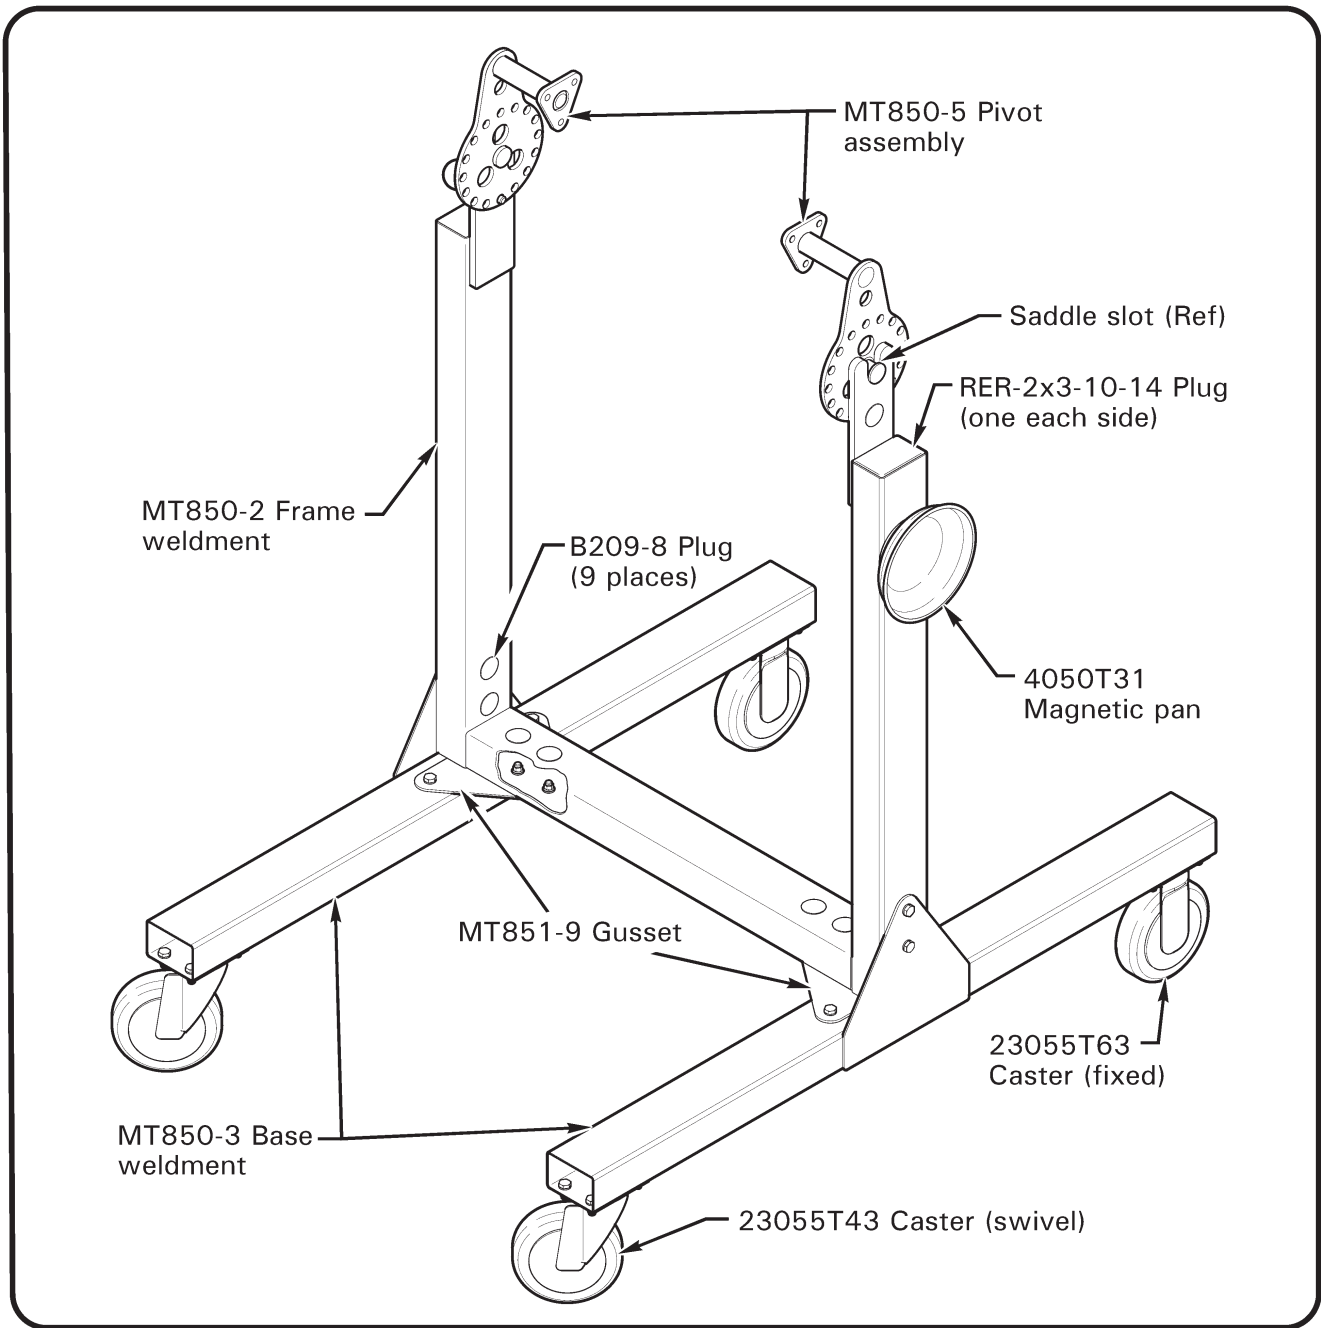

FIGURE 1
1. Refer to Figure 1. Install MT851-9 gusset, one each side, to MT850-2 frame weldment using (4) 92865A105 bolts, (8) NAS1149F0563P washers, and (4) 95462A510 nuts with gusset and bolt heads on bottom of frame weldment.
2. Install MT850-2 frame weldment to MT850-3 base weldments using (8) 92865A105 bolts, (16) NAS1149F0563P washers, and (8) 95462A510 nuts.
3. Install two 23055T43 casters (fixed) and two 23055T63 casters (swivel) to MT850-3 base weldments using (16) 92865A105 bolts, (32) NAS1149F0563P washers, and (16) 95462A510 nuts, ensuring mating casters are installed on same ends of base weldments.
4. Torque (28) 95462A510 nuts to 175 in-lbs.